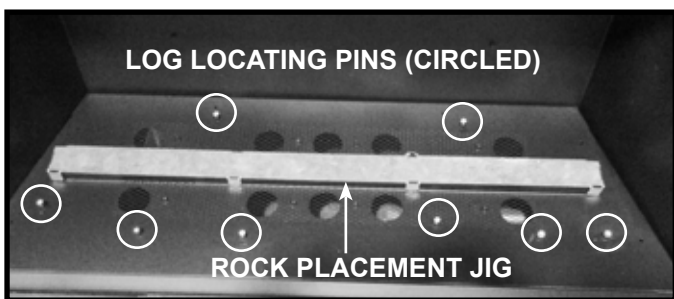

Figure 11.2. Location of Pins and Jig
1. Ensure rock placement jig is in place before beginning placement of stones. Remove log locating pins if installed. The number of pins will vary depending on the model. Use a Phillips screwdriver. Figure 11.2 shows location of pins and jig.